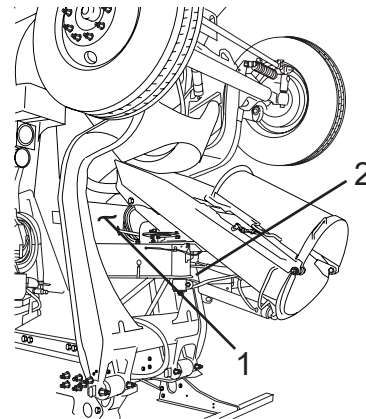

Figure 138
The hydraulic chute swing option (Figure 138, Item 1) allows the operator to move the discharge chute from the standard in-cab control keypad or rear pendant keypad.
1. Release the manual chute lock (Figure 138, Item 2).